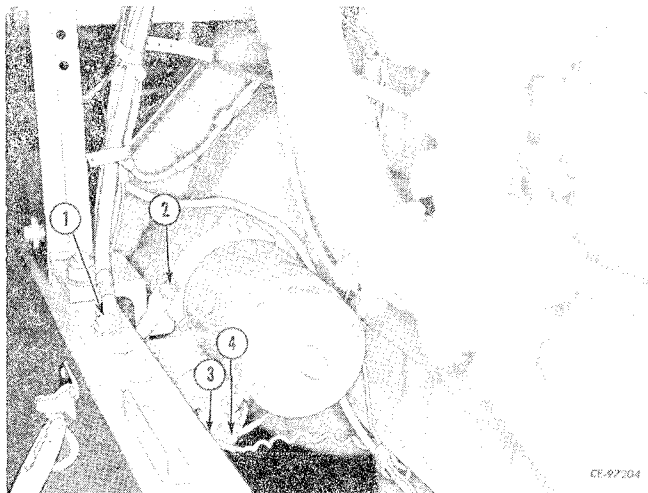

Figure 2-9
Disconnect battery ground cables from the frame (1, Fig. 2-9) and engine (2). Remove and tag electrical wires from starter solenoid (3 and 4).
Install battery ground cables to frame (1, Fig. 2-9) and engine (2). Install electrical wires to starter solenoid (3, 4).